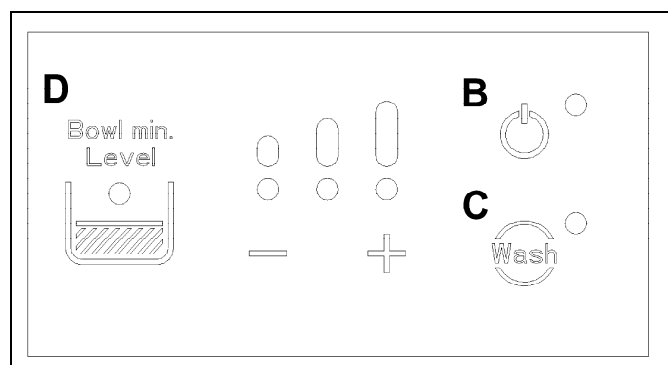
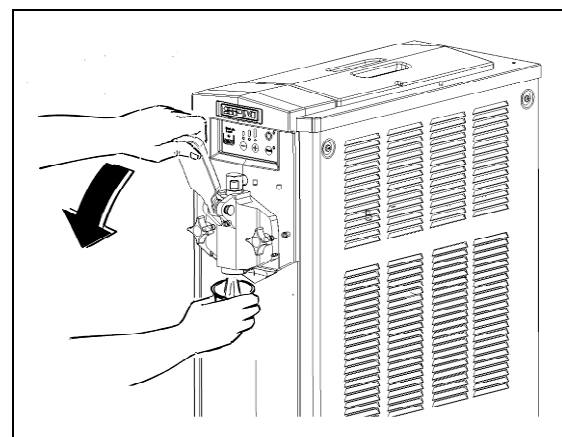

Fig. 9
Fig. 11
- Select the desired mode of operation from the control panel (fig. 9)
- To activate the cooling system in cooling mode push the power button B on the control panel (fig. 9).
- To change the consistency of the mix, press the + and – keys of the control panel (fig. 9). Pressing + will cause the number of LEDs lit to rise and consequently the consistency setting increases. Pressing – instead will decrease the number of LEDs lit and reduce the mix consistency (fig. 11).
- To activate wash mode, push the button WASH button (button C in fig. 9) after switching off the cooling system by pressing the power button B and making sure that its LED is off.
- To dispense, place a glass under the tap and pull the lever as shown in fig. 11. The beater will begin to rotate again, starting the dispensing phase.